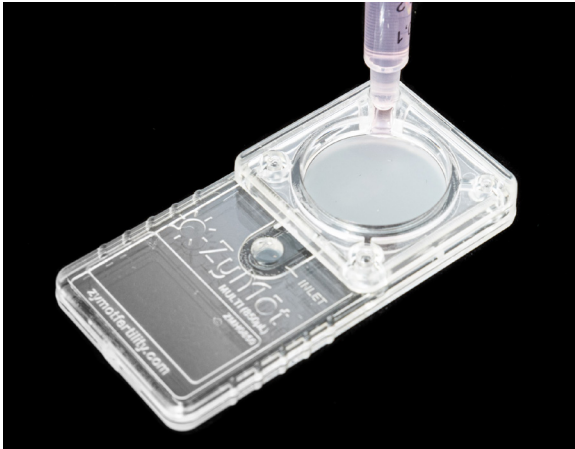

Figure 5a. Prime Outlet Port.
- a) Prime the Outlet Port by injecting a small volume of media (approximately 50 μ L – Figure 5a), until the media travels through the channel to the membrane.